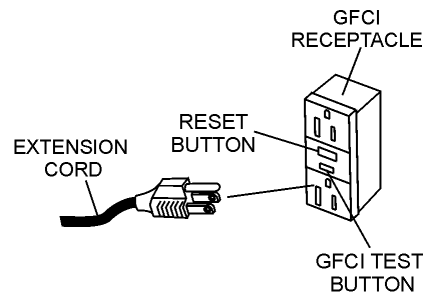

Figure 11. GFCI Receptacle
4. Plug the free end of the extension cord into an AC power receptacle. Whenever possible use a GFCI receptacle (Figure 11) to reduce the risk of electrical shock.